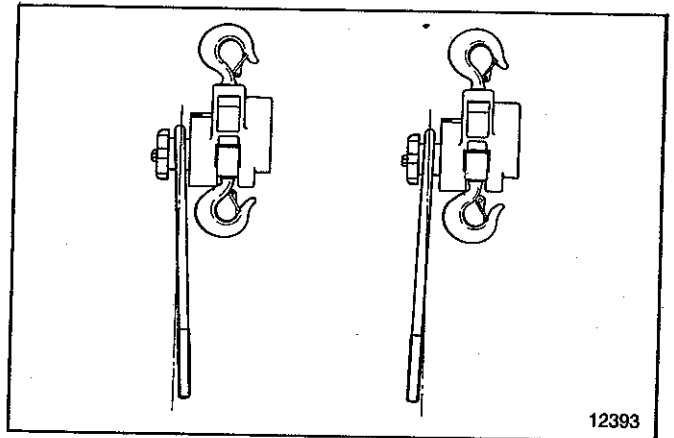

Figure 2-3. Views Showing Operating Handle Cocked
a. Your TUGIT Lever Hoist will not "freewheel" if handle is cocked as shown in Figure 2-3. Make certain there is no side thrust or pressure that would prevent load brake nut from turning freely.